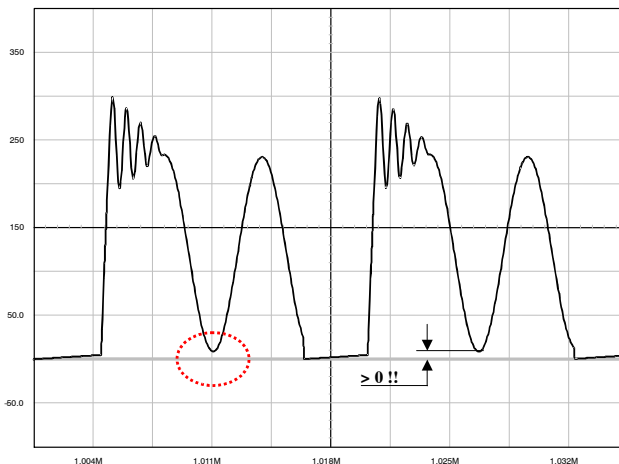

Figure 35. The Drain-Source Wave Shall Always be Positive
1. The lateral MOSFET body-diode shall never be forward biased, either during start-up (because of a large leakage inductance) or in normal operation as shown by Figure 35. This condition sets the
Figure 37a: the simple capacitor limits the voltage according to The lateral MOSFET body–diode shall never be forward biased, either during start–up (because of a large leakage inductance) or in normal operation as shown by Figure 35. This condition sets the maximum voltage that can be reflected during  $t_{off}$ . As a result, the Flyback voltage which is reflected on the drain at the switch opening cannot be larger than the input voltage. When selecting components, you thus must adopt a turn ratio which adheres to the following equation: Equation 3. This option is only valid for low power applications, e.g. below 5 W, otherwise chances exist to destroy the MOSFET. After evaluating the leakage inductance, you can compute C with Equation 4. Typical values are between 100 pF and up to 470 pF. Large capacitors increase capacitive losses...